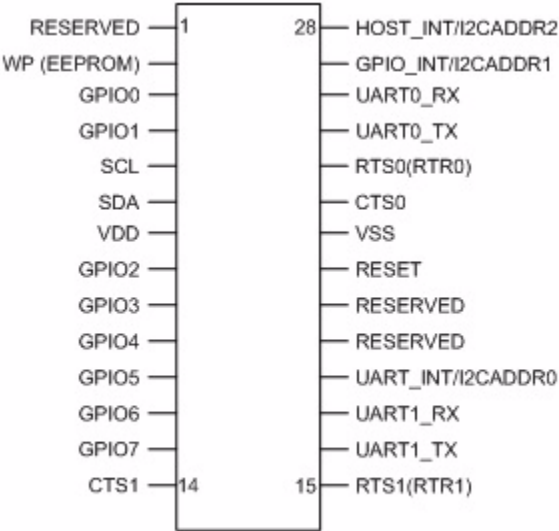

Figure 4. ZDU0110RJX Pin Configuration
- Figure 4. ZDU0110RJX Pin Configuration 7